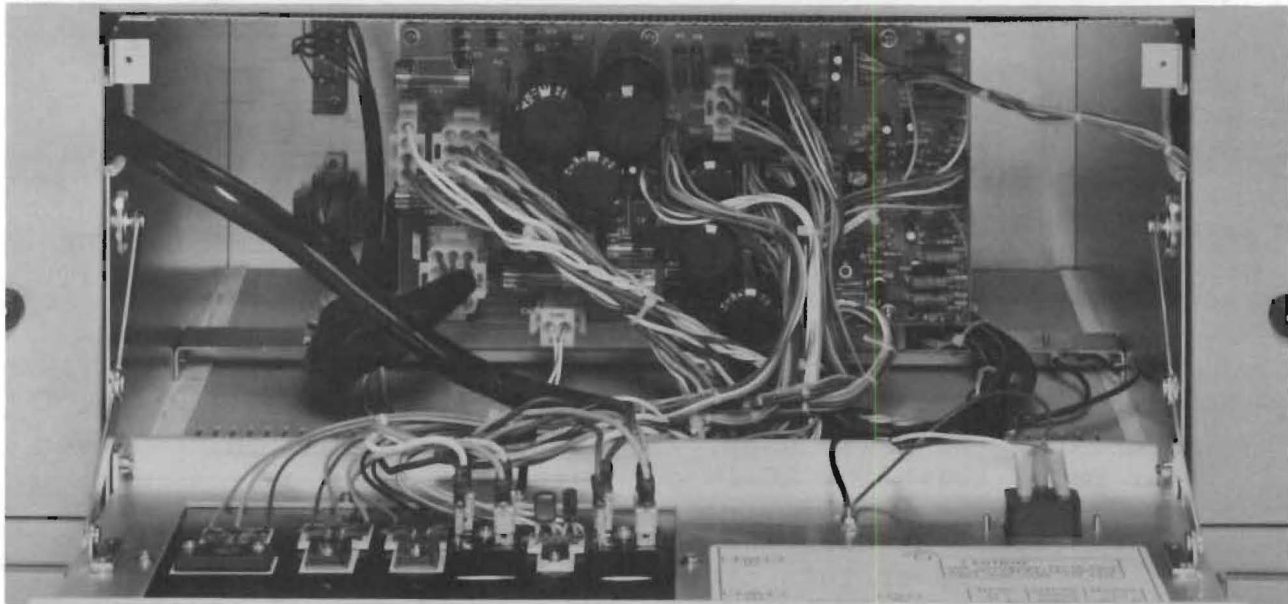

FIGURE 2-6. CHECK THE VARIOUS CONNECTORS AND COMPONENTS ON THE POWER SUPPLY CIRCUIT BOARD AND THE LOWER REAR PANEL.
- B. Check the various connectors and components to be sure they are firmly seated: (Refer to Figure 2-6.)